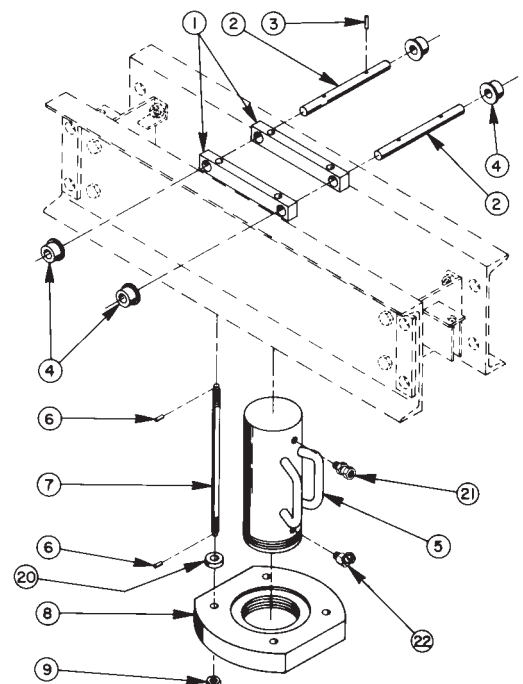

FIGURE 7
9. See Figure 7. Assemble the roller carriage wheels (Items 1, 2, 3, & 4). The lips of the carriage wheels (Item 4) must be located to the inside of the upper bolsters as shown in Figures 7 & 8. Install the threaded rods (Item 7) into the roller carriage, and secure with roller pins (Item 6). Place the completed assembly on top of the upper bolster. See Figures 7 & 8.
11. **80/100 ton (72.56/90.70 t) presses:** Thread the cylinder into the mounting plate (Item 8, Figure 7) until all threads are engaged.
**150/200 ton (136.05/181.40 t) presses:** Thread the cylinder into the mounting plate until the bottom hose fitting hits on the mounting plate counterbore (counterbore toward cylinder as shown in Figure 7). Position the cylinder inlet and outlet ports parallel with the upper press bolster and toward the hydraulic pump mounting position. Back the cylinder out of the threads only enough to position it correctly with hoses and fittings as shown in Figure 7).
14. See Figure 7. Install the four threaded rods in the roller carriage into the cylinder mounting plate. Secure the carriage with locknuts on the bottom side of the cylinder mounting plate. Adjust the ease of travel of the carriage with the tightness of the locknuts. Insert the roll pins (Item 6) in both ends of the threaded rods after adjustments have been made.
18. Connect the pump to the cylinder using the two hoses supplied. Valve port "A" (See Figure 10) must be connected to swivel connector (Figure 7, Item 21) on the cylinder. Valve port "B" must be connected to swivel connector (Figure 7, Item 22) on the cylinder.